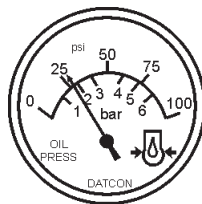

Figure 47. Oil Pressure Gauge
8. The engine oil pressure gauge (Figure 47) will indicate the oil pressure of the engine. Under normal operating conditions the oil pressure is approximately 44 to 73 psi. (303~503 kPa). When starting the genera